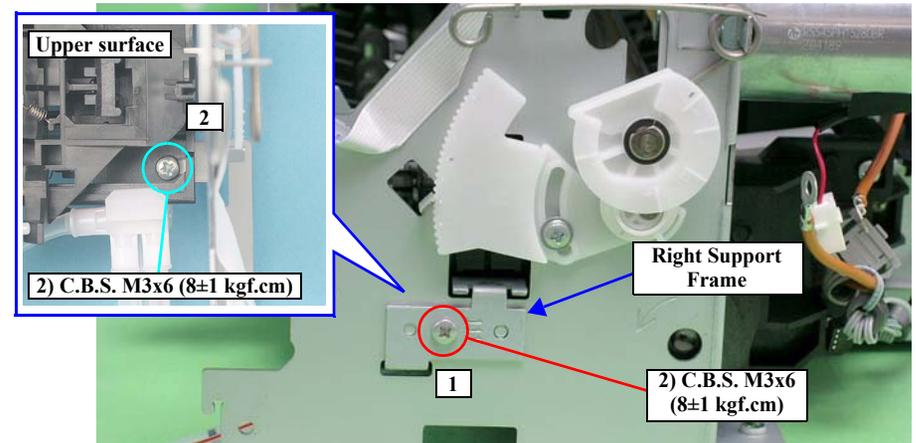

Figure 3-113. Removing the Right Support Frame
- Tighten the screws in the order shown in Figure 3-113.